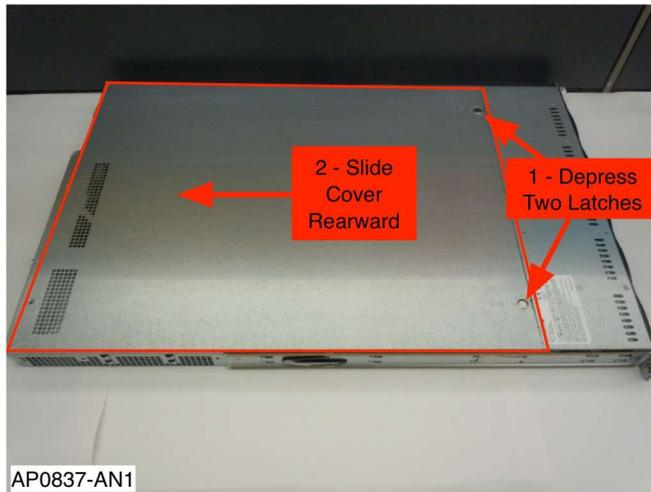

Figure 2: Removing Cover Steps 1 and 2
- 1.2 Begin removing the cover by depressing the two latches and sliding the cover rearward. See Figure 2.